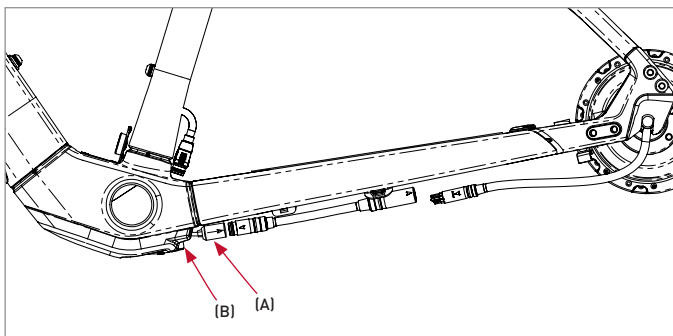

Figure 10
1. Disconnect the battery power cable (B) from the front plug of the frame motor cable (A) (Figure 10).